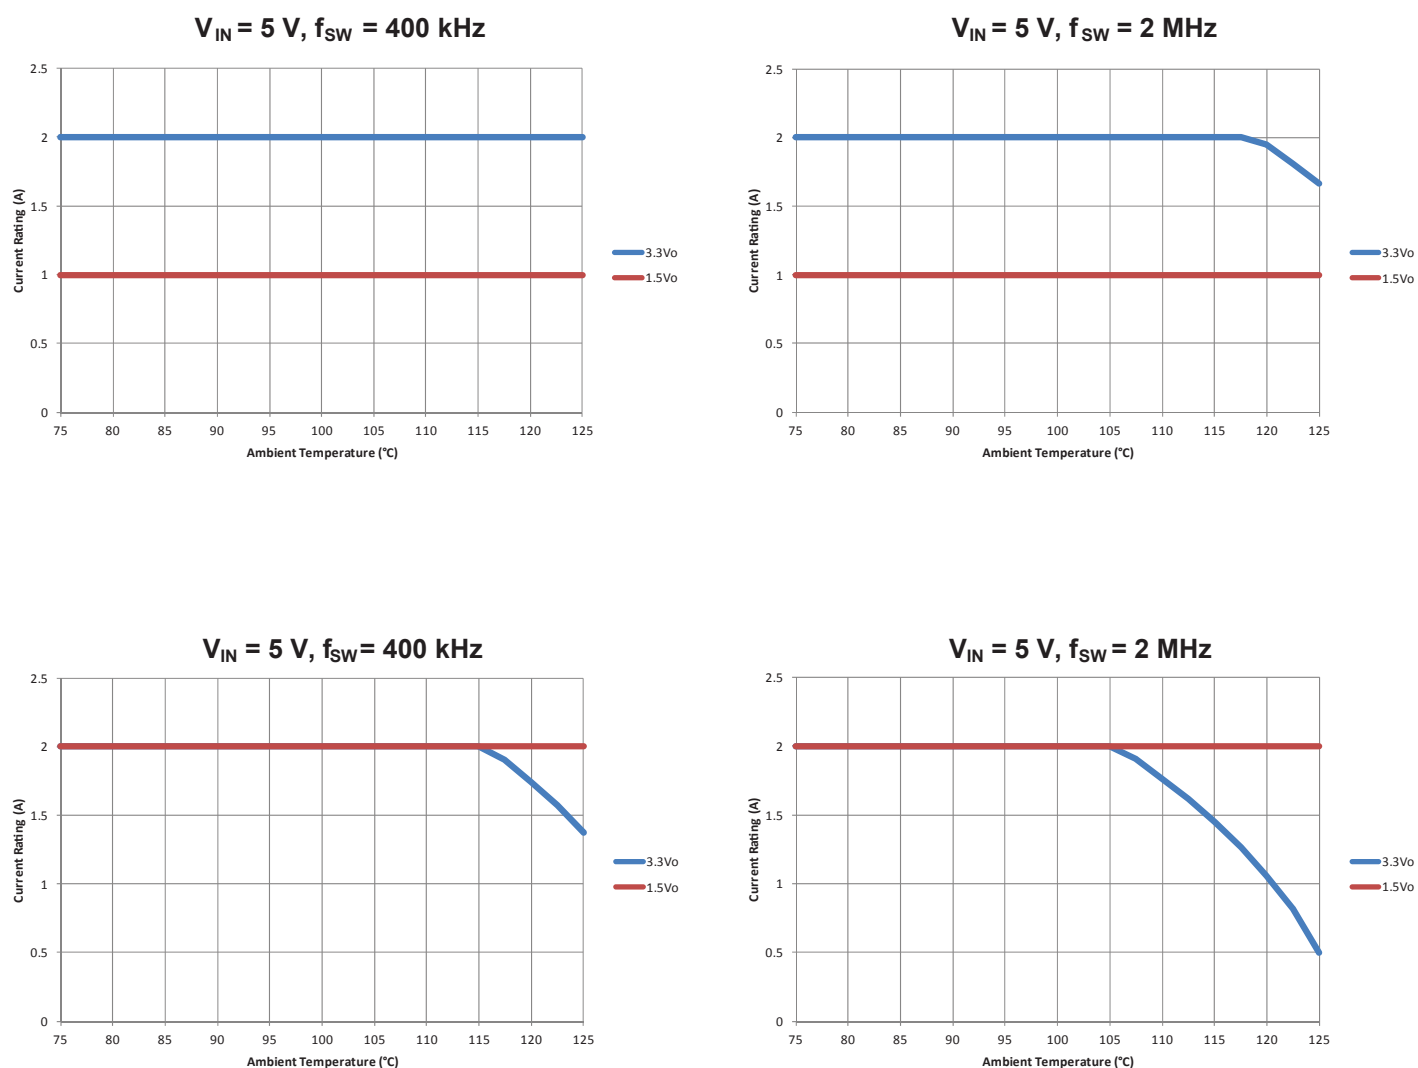
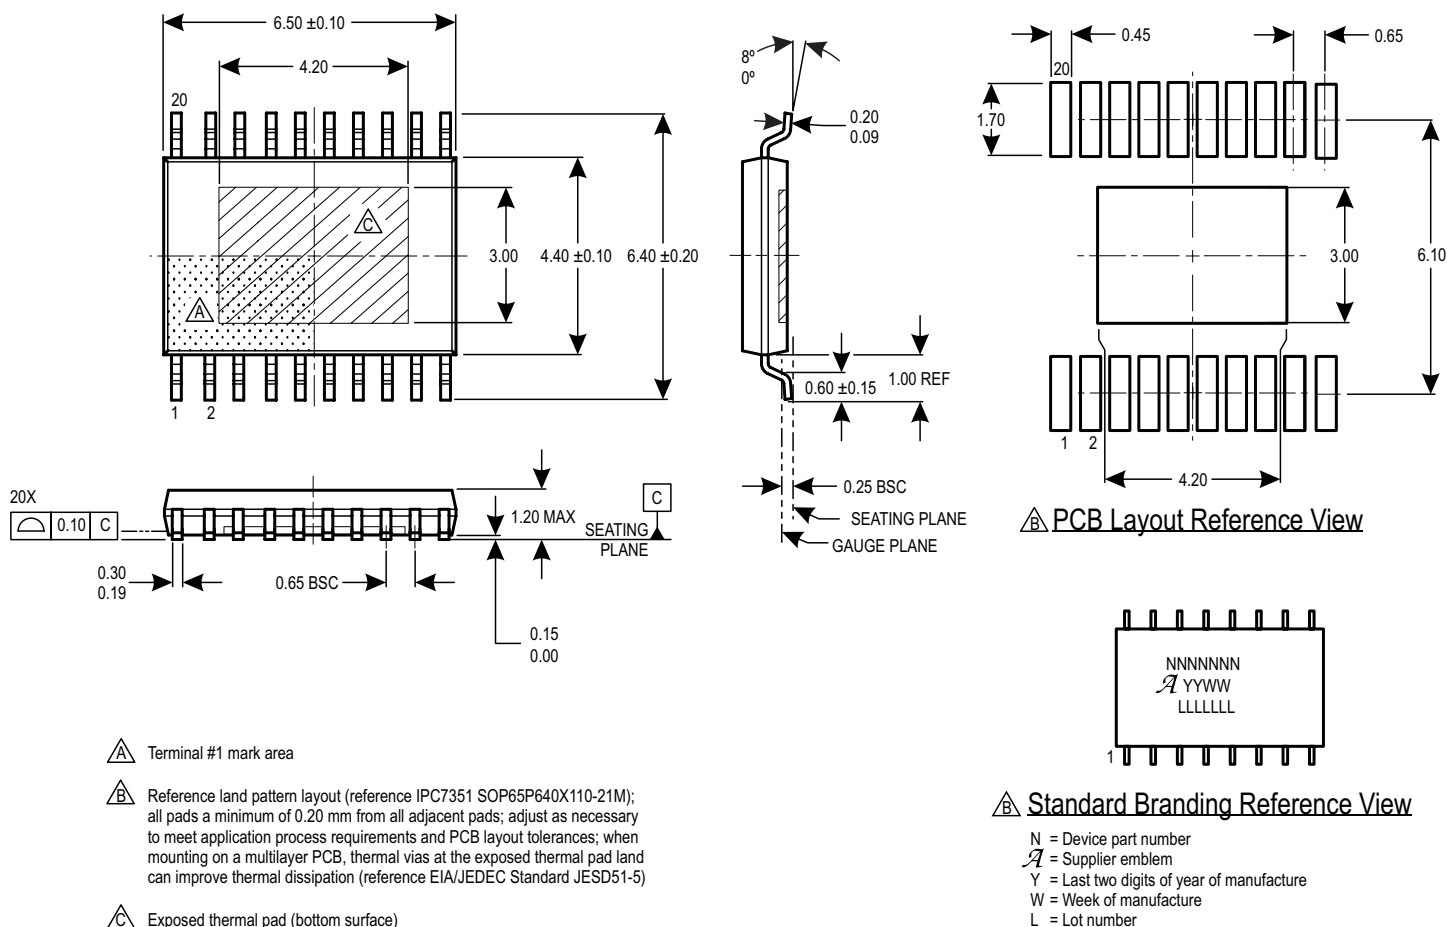

Figure 16: Current Derating Curve versus Output Voltages, Switching Frequency, and Ambient Temperature
Figure 17: Package LP, 20-Pin TSSOP with Exposed Thermal Pad
A good PCB layout is critical if the A8651 is to provide clean, stable output voltages. Follow these guidelines to ensure a good PCB layout. Figure 16 shows a typical buck converter schematic with the critical power paths/loops. Figure 17 shows an example PCB component placement and routing with the same critical power paths/loops from the schematic.
1. Place the ceramic input capacitors as close as possible to the VINx pins and ground the capacitors at the PGNDx pins. The ceramic input capacitors and the A8651 must be on the same layer. Connect the input capacitors, the VINx pins, and the PGNDx pins with a wide trace. This critical loop is shown as a red trace in Figures 16 and 17.
2. Place the output inductor (L_{OX}) as close as possible to the SWx pins. The output inductor and the A8651 must be on the same layer. Connect the SWx pins to the output inductor with a relatively wide trace or polygon. For EMI/EMC reasons, it is best to minimize the area of this trace/polygon. This critical trace is shown as a green trace in Figure 16. Also, keep low-level analog signals (like FB and COMP) away from the SW metal.
3. Place the output capacitors relatively close to the output inductor and the A8651. Ideally, the output capacitors, output inductor and the A8651 should be on the same layer. Connect the output inductor and the output capacitors with a fairly wide trace. The output capacitors must use a ground plane to make a very low inductance connection back to the PGND pin. These critical connections are shown in blue in Figures 16 and 17.
12. Allegro strongly recommends the use of current steering (a cut in the ground plane) to prevent current from SW1 from disturbing SW2 and vice versa. Notice the horizontal cut in the ground plane as shown in Figure 17.